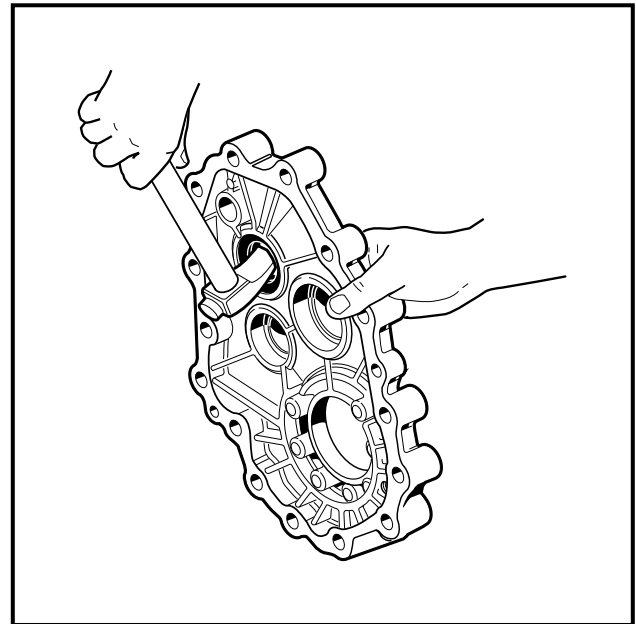

Figure 16-44 Input Shaft Oil Seal
- Use a seal puller (CCI 1012809) or rolling head prybar to remove the input shaft oil seal from the case (**Figure 16-44, Page 16-18**).